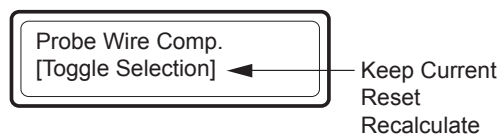

Figure B.2—Probe Wire Compensation menu
- a. Press STEP and ENTER simultaneously, then release to enter the configuration menu (Figure B.2, Page B-2).